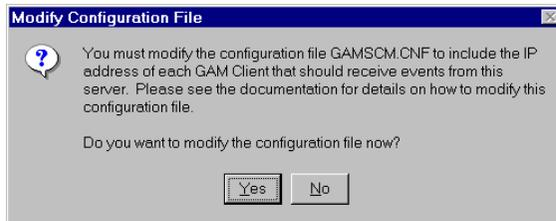

Figure 3-22. Modify Configuration File Message Box
7. After files are copied, the Modify Configuration File message box appears (Figure 3-22).